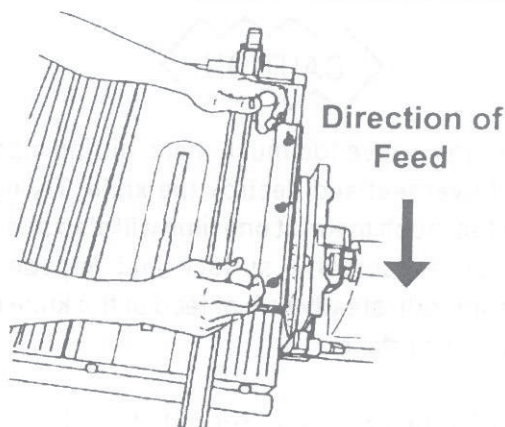

Figure 10
16. Move the Knife Sharpener slowly and steadily to the right, into the rotation of the Conical Sanding Disc, see Figure 10.